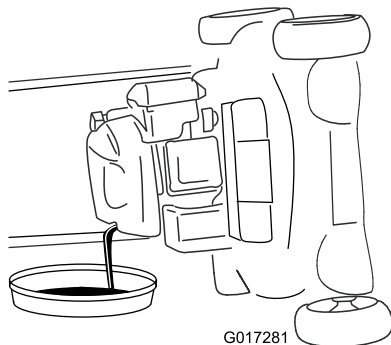

Figure 31
4. Tip the machine onto its side (so that the air filter is up) to drain the used oil from the oil-fill tube (Figure 31).